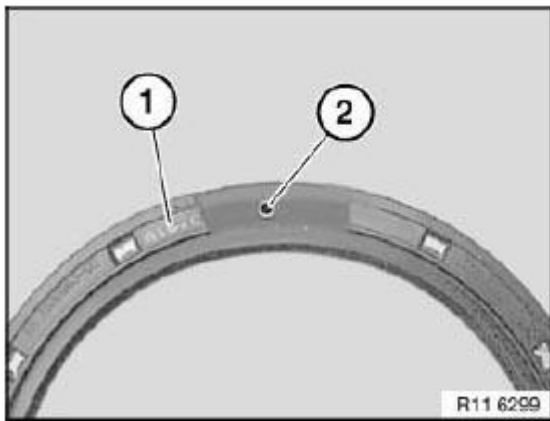

Fig. 74: Identifying Rubber Coating & Radial Seal
NOTE: If necessary, remove rubber coating (1) on top side of radial seal and expose a removal opening (2) (see Fig. 74).